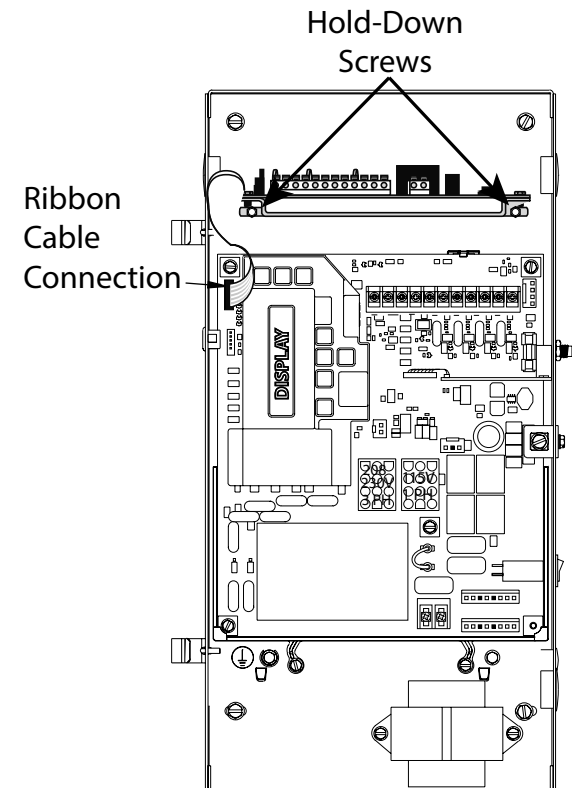

Fig. 3B Install AOM in SX-HX Unit
3. Install Auxiliary Output Module. (Fig. 3B)